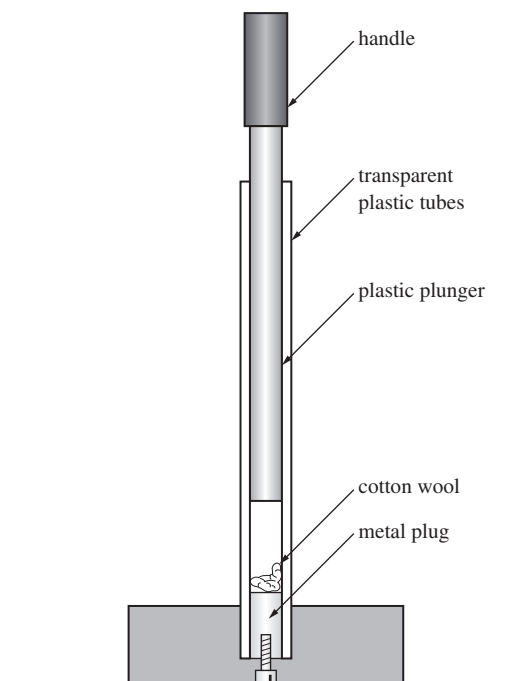

Figure 7
- 7 **Figure 7** shows a device for demonstrating an effect of adiabatic compression. A small pad of dry cotton wool is placed on the metal plug at the lower end of a long transparent plastic tube. The plunger is pushed quickly down the tube compressing the air in the tube. When the plunger nears the bottom the cotton wool is seen to ignite in a small tongue of flame.